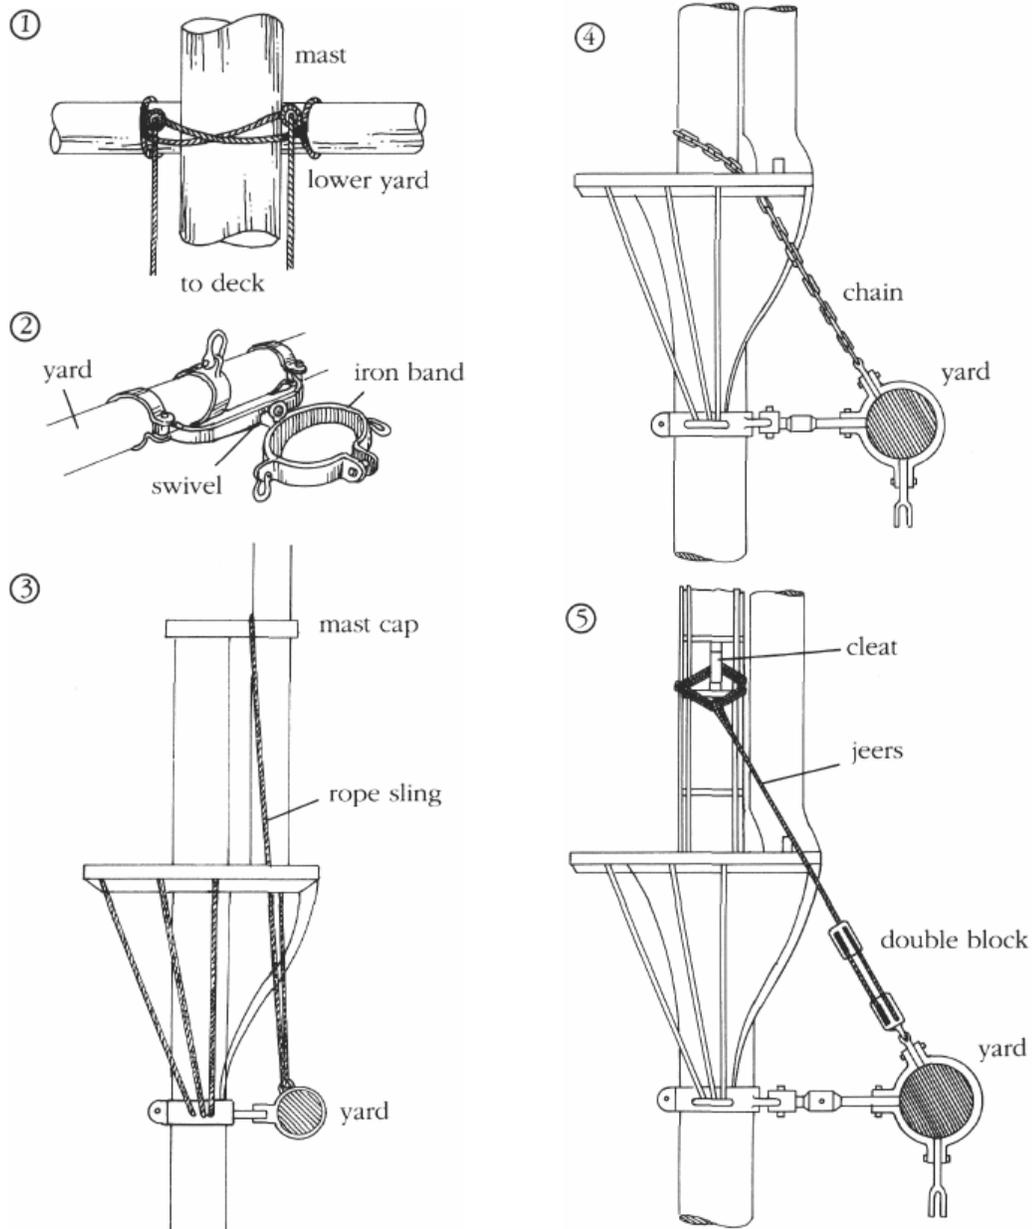

FIGURE 57. *Trusses, slings, and jeers.*
TRUSSES, SLINGS, AND JEERS. A number of methods were developed to hold the lower yards in place and allow them to be adjusted to the wind, as shown in Figure 57. *Trusses* allowed the lower yards to be adjusted laterally. On older ships, trusses were made of rope turned around the mast (1) and the yard and brought down to the deck, where they were secured with a *purchase* — tackle arranged to mechanically increase the force a sailor could apply. Later trusses were made of iron. An iron band with a swivel joint holding the yard was secured around the mast (2). This allowed the yard to be oriented to the wind as needed.